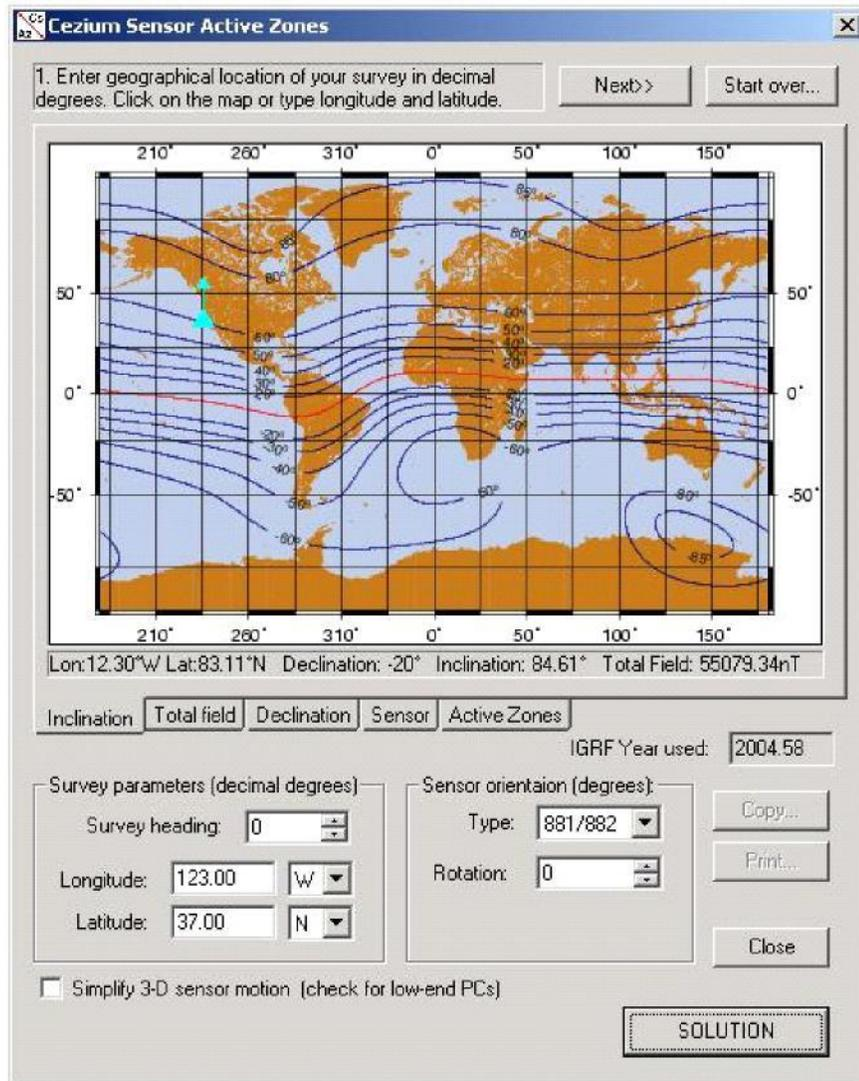

Figure 1 CSAZ-II Main Window
- 1) *Enter geographical location of your survey in decimal degrees. Click on the map or type longitude and latitude.* This first step defines the survey location. Your position can be entered manually (north or south latitude, east or west longitude) or entered automatically by clicking your position on any of the maps (See Figure 1 below.). When the survey position is entered manually, the survey location (arrow) will be updated on the map. Press "Next". (Note: you can select on of the other map views – total field, inclination, or declination – and this will not affect the orientation solution.)